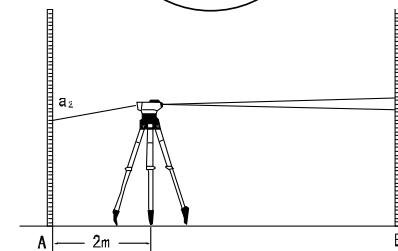

Fig.13
(2) Move the instrument 2m away from A, the readings are a_2, b_2 (Fig.13)
(3) Calculate $b_2' = a_2 - (a_1 - b_1)$. If $b_2' = b_2$, it shows that line of sight is no need to correct.
(4) If $b_2' \neq b_2$, it shows that correction shall be needed.
(5) Point the optical sight to staff B, screw off the eyepiece cover, adjust the screw of cross-hair to make middle hair give the required reading b_2' .
(6) Repeat the above until $|b_2' - b_2| < 3\text{mm}$.